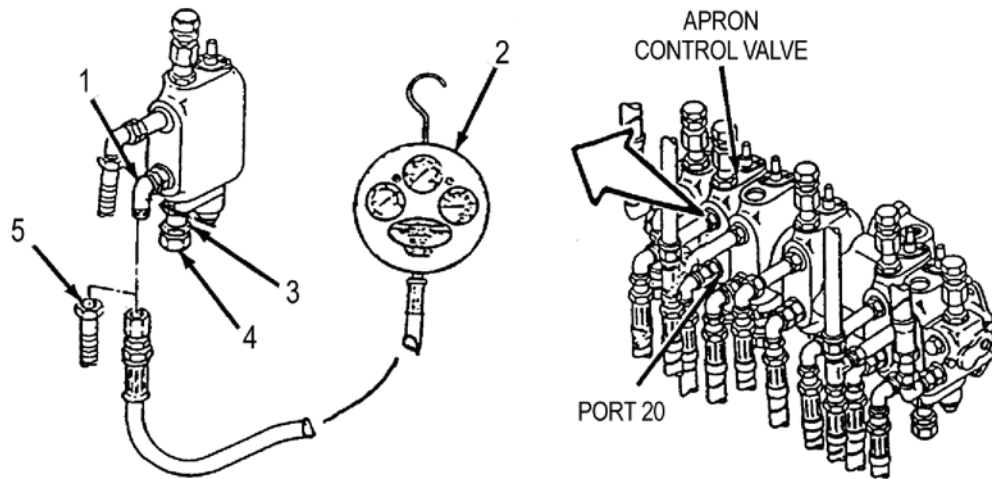

Figure 47. Apron Control Valve
- Disconnect CONT VLV-20 hose (Figure 47, item 5) from elbow (Figure 47, item 1) at port 20 of apron control valve. Connect pressure measuring device (Figure 47, item 2) to elbow (Figure 47, item 1). Plug hose (Figure 47, item 5).
- Have assistant start engine and hold APRON CONTROL lever in DOWN position. Read pressure measuring device (Figure 47, item 2).
- As assistant holds APRON CONTROL lever DOWN, loosen jam nut (Figure 47, item 3) and rotate adjusting screw (Figure 47, item 4) clockwise to increase pressure; counterclockwise to decrease pressure. When adjustment is completed, tighten jam nut (Figure 47, item 3).